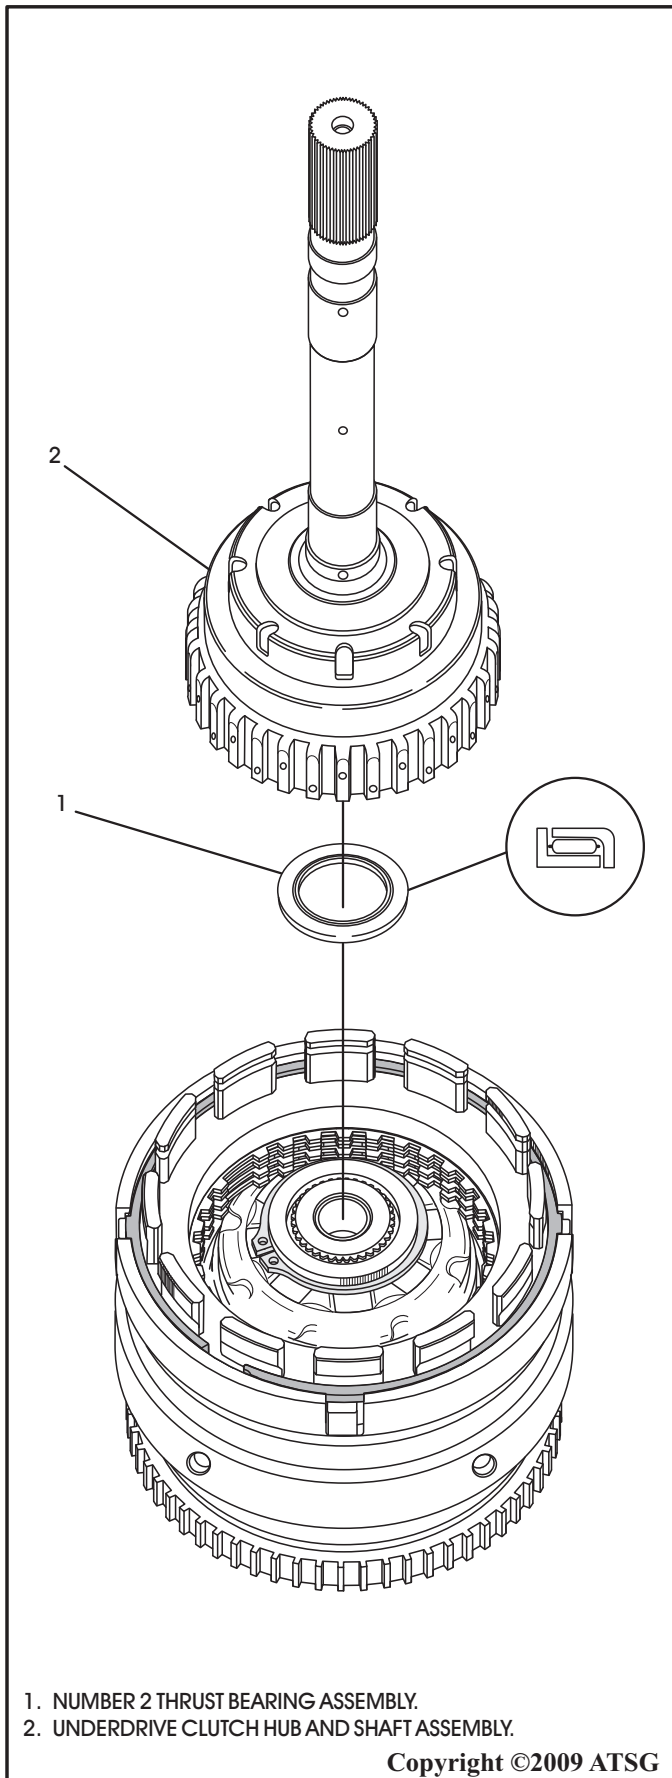

Figure 81
42. Install the number 2 thrust bearing into the underdrive clutch hub and shaft, in direction shown in Figure 81, and retain with TransJel®.